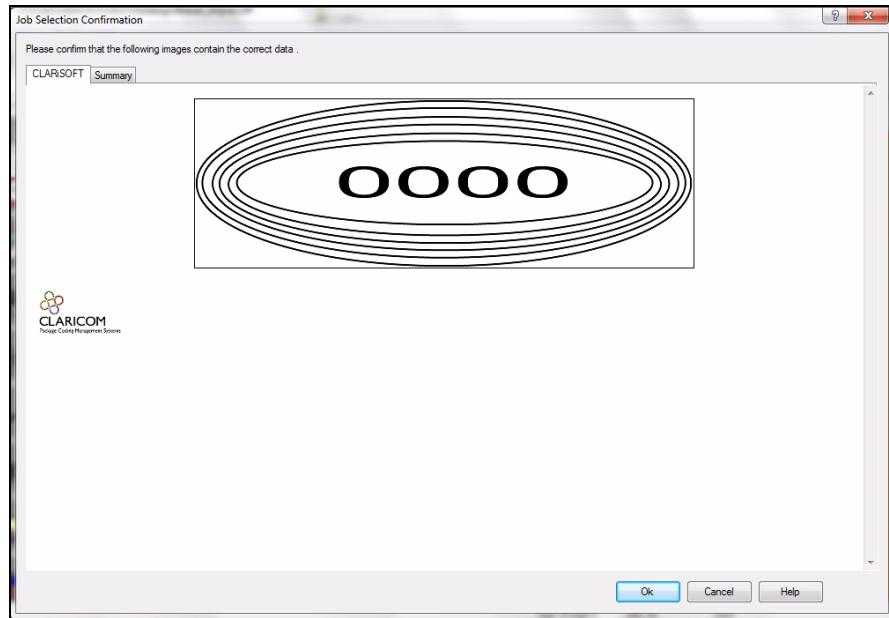

Figure 6-9: Confirmation Window
- 8 Click the *Open* button. The confirmation window appears (see Figure 6-9 on page 6-8).